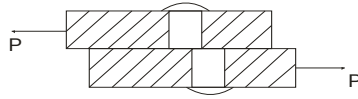

Fig. 1.4
**(C) Shear Stress ( $\tau$ ):** When equal and opposite forces are applied tangentially to any cross sectional plane of a body, tending to slide its one part over other, the body is said to be in state of shear. The corresponding stress induced is shear stress. In Fig.1.4 riveted